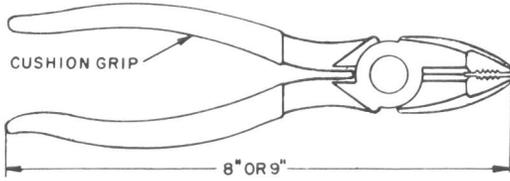

Fig. 4—AT-7859 B Side Cutting Pliers
2.04 AT-7859 B: The AT-7859 B tools are side cutting pliers (Fig. 4) for general use. The plastic cushion grips do not provide protection against hazardous voltages. These tools replace AT-6649 tools.